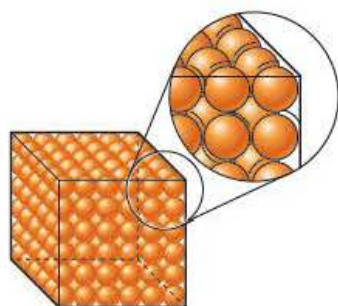

Figure 2.4 Particles in a solid.
- In a solid, the particles are very close and arranged in a regular pattern. They can only vibrate about fixed positions (Figure 2.4).